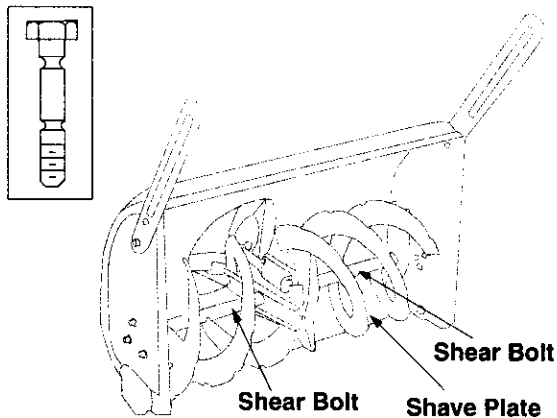

Figure 23
The augers are secured to the spiral shaft with two shear bolts and hex lock nuts. See Figure 23. If you hit a foreign object or ice jam, the snow thrower is designed so that the bolts will shear. This type of nut is used where vibration occurs.
If the augers do not turn, check to see if the bolts have sheared. Two replacement shear bolts (shown in Figure 23 inset) and hex lock nuts have been provided with the snow thrower. Since lock nuts cannot be threaded onto a bolt by hand, use a wrench. When replacing bolts, spray an oil lubricant into shaft before inserting new bolts.
- Remove the four carriage bolts, belleville washers and hex nuts which attach skid shoes to the snow thrower on two sides. See Figure 23.
bolts, belleville washers and hex nuts which attach shave plate to the snow thrower housing. For location of shave plate, see Figure 23.